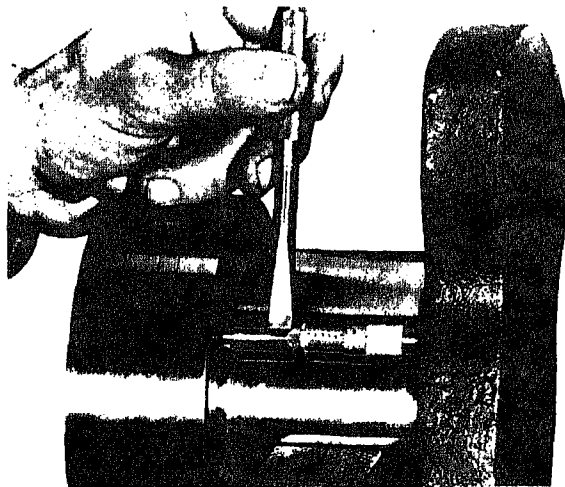

Fig. 1-4-2. Checking thrust flange for wear
2. Measure crankshaft journals with micrometers. See Fig. 1-4-2 or 1-4-4 and Table 1-4-1.
1. Carefully examine crankshaft thrust flange at No. 7 bearing (No. 5 on 4 cylinder engines), Fig. 1-4-2. If surface is scored or scratched, flange should be reground with oversized thrust rings.